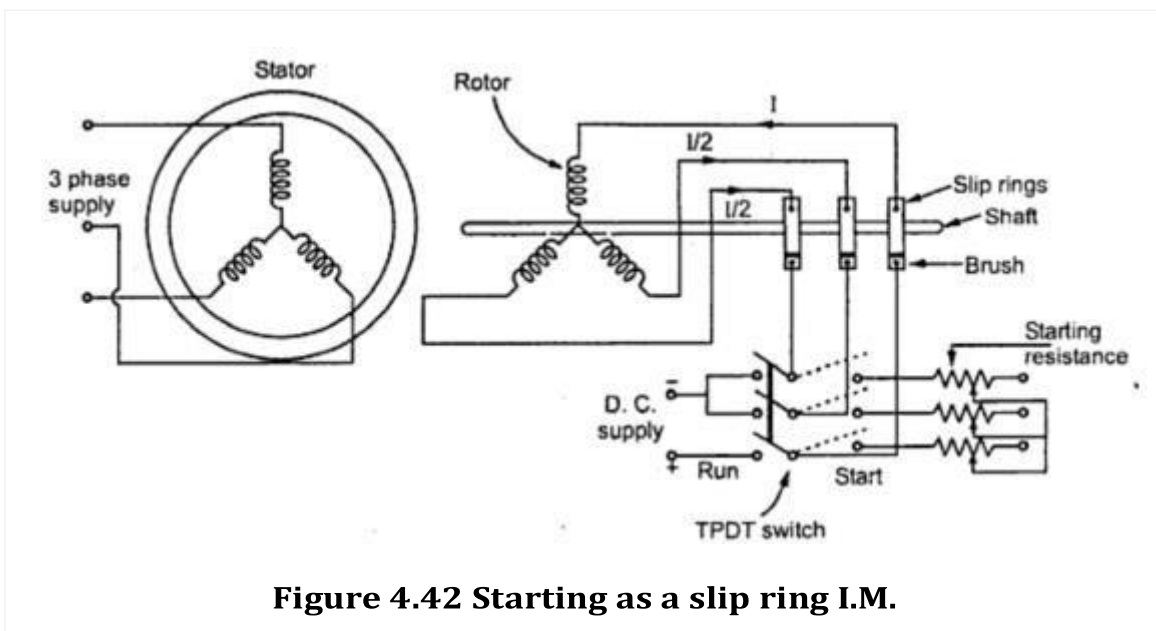

Figure 4.42 Starting as a slip ring I.M.
- The synchronous motor started by this method is called a slip ring induction motor is shown in the Fig 4.42.
- It can be observed from the Fig. 4.42 that the same three phase rotor winding acts as a normal rotor winding by shorting two of the phases.
- The diagram illustrates the electrical connections for a synchronous motor during a no-load test. A three-phase supply (R, Y, B) is connected to the motor's stator windings. A voltmeter (V_L) is connected across two stator phases to measure the line voltage. An ammeter (A) is connected in series with the supply to measure the line current (I_L), which is also labeled as I_a . The motor's field winding is connected to a separate DC circuit. This circuit includes a DC supply, a rheostat for current control, and an ammeter (A) to measure the field current (I_f). The field winding terminals are labeled F_1 and F_2 . The motor's internal components, including the stator and field windings, are represented by their respective electrical symbols (resistors and inductors).